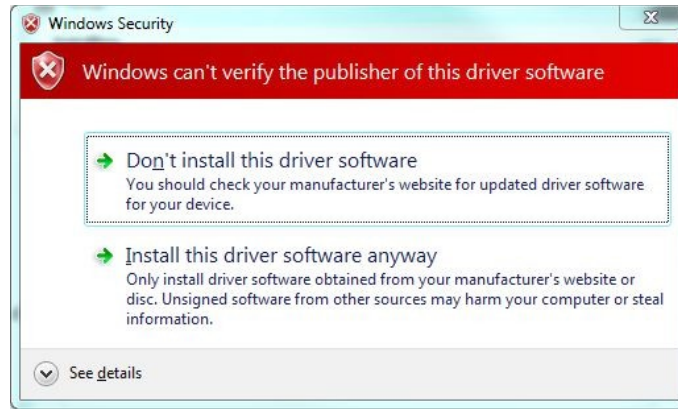

Figure 44 Hardware wizard. Install driver software anyway
6. If the **Windows Security** window appears, select **Install this driver software anyway**, see Figure 44.